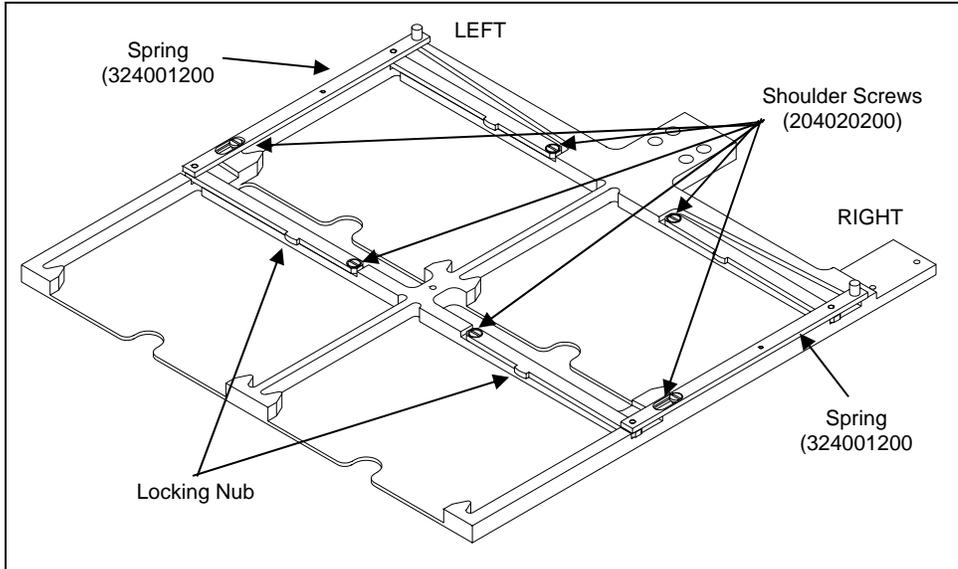

Figure 15-12 Locking Nubs on the Actuating Levers
Locking nubs (Figure 15-12) are used on the actuating levers to maintain the plates in position.
- 1 Remove the three shoulder screws (Figure 15-12) that secure the right (or left) actuating lever assembly to the drawer. Remove the actuating lever assembly from the drawer.